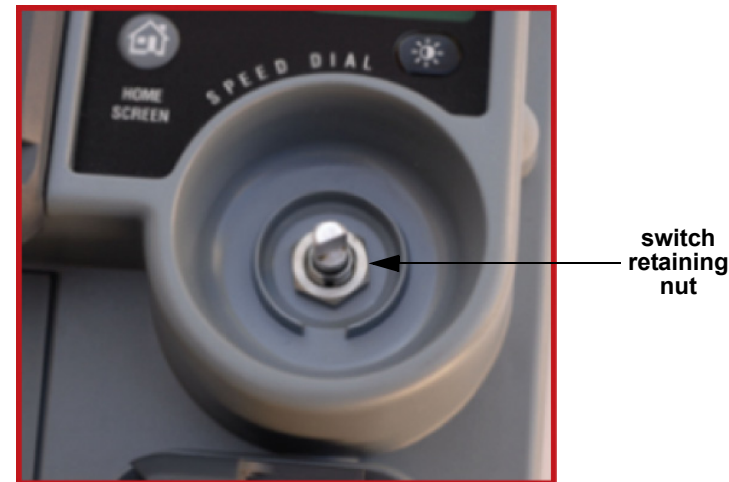

Figure 10.27—Nut and lock washer
3. Push the knob (3207030-000) onto the speed dial assembly shaft from the outside of the front case (see Figure 10.27 on p. 339).